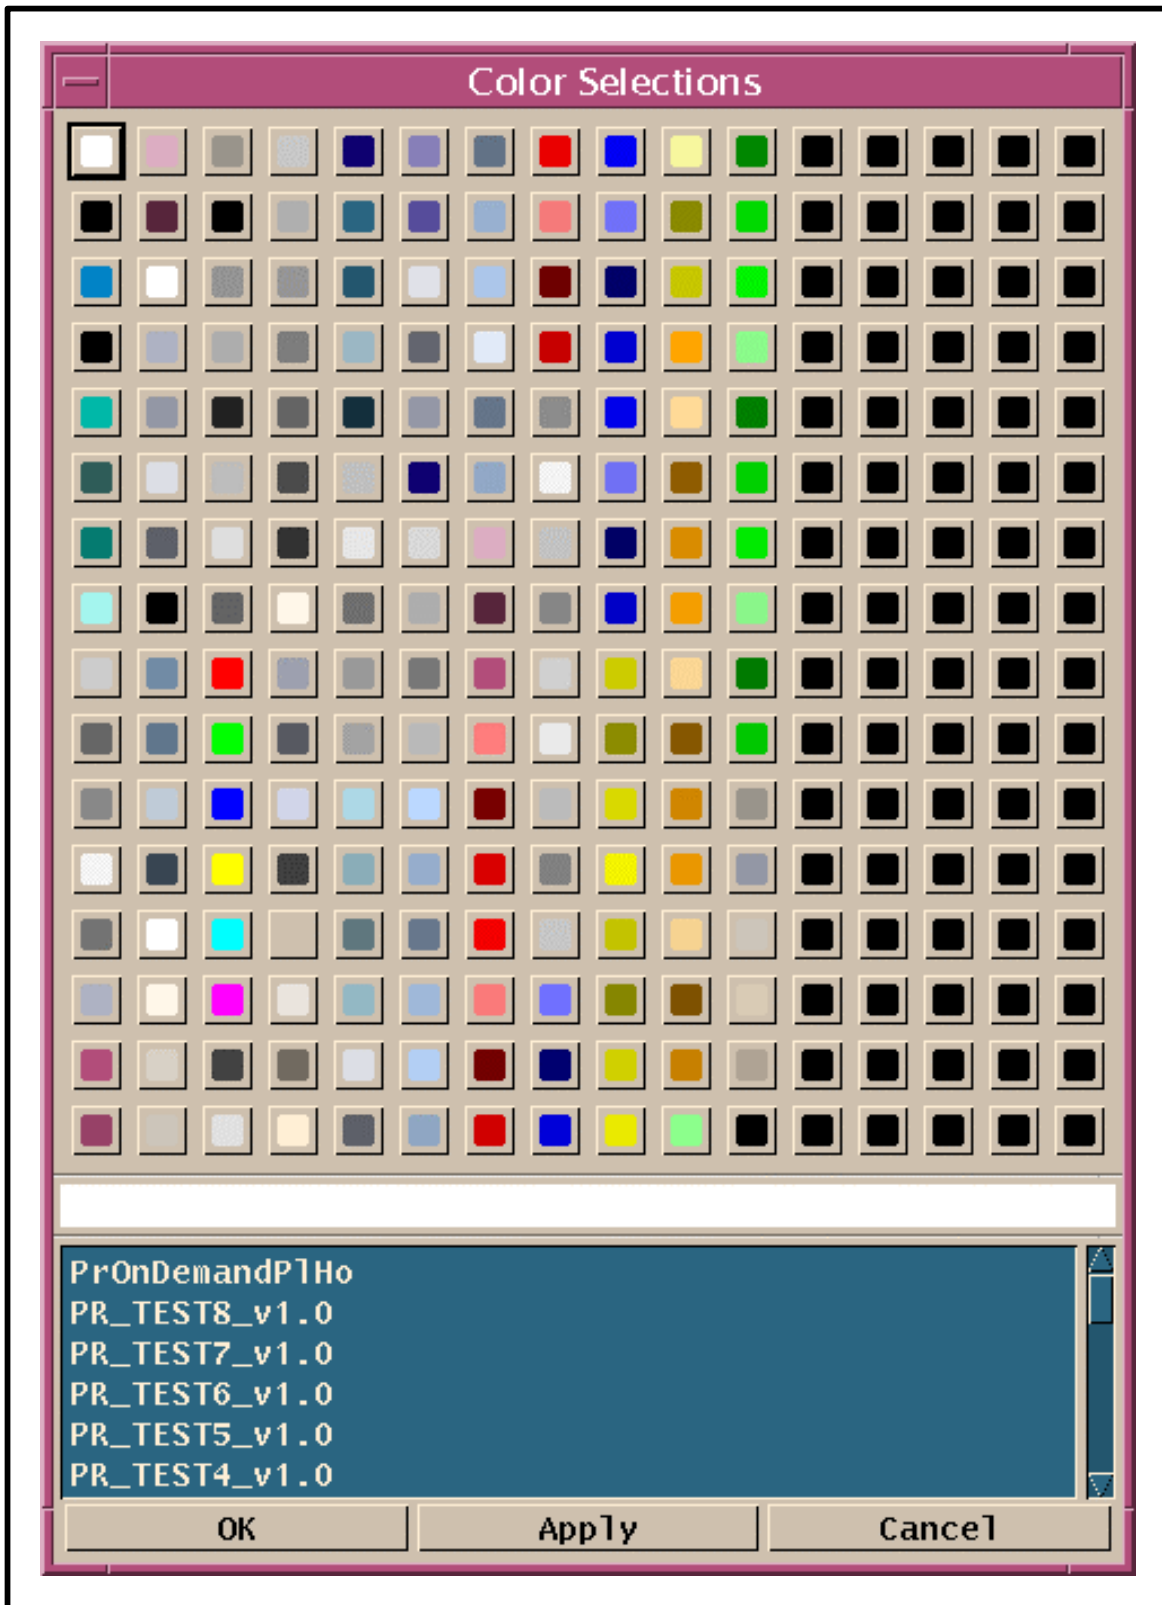

Figure 48. Color Selections Window
- The Color Selections window (Figure 48) is displayed.